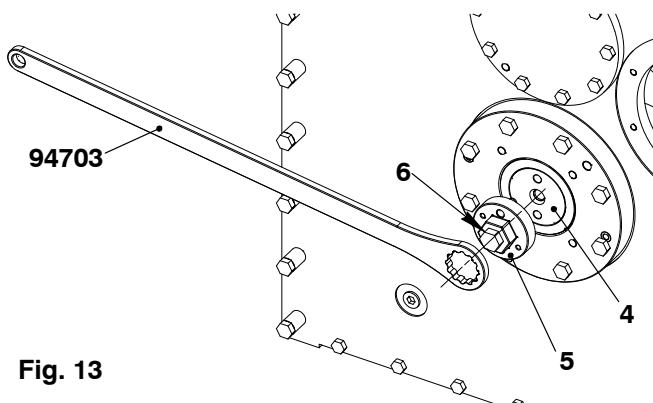

Fig. 13
- 4) Remove the four screws (7) on the bottom bearing cover (6) at the outer side.
- a) Install the socket insert (5, Fig 13) with the screw (6) on the pin (4) of the bottom bearing.
- b) Torque the screw (6) to 100 Nm.